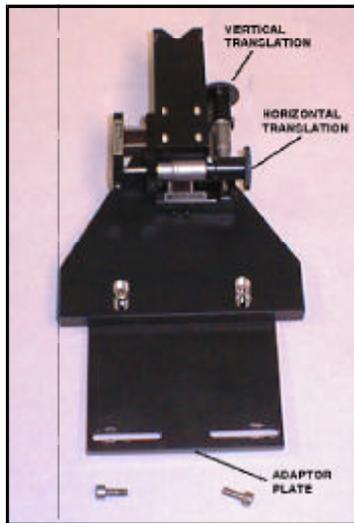

Figure 2-23. Focusing jig adaptor plate.
- 6) Mount the focusing jig onto the front of the detector by using the adaptor plate as shown in Figures 2-23 and 2-24.